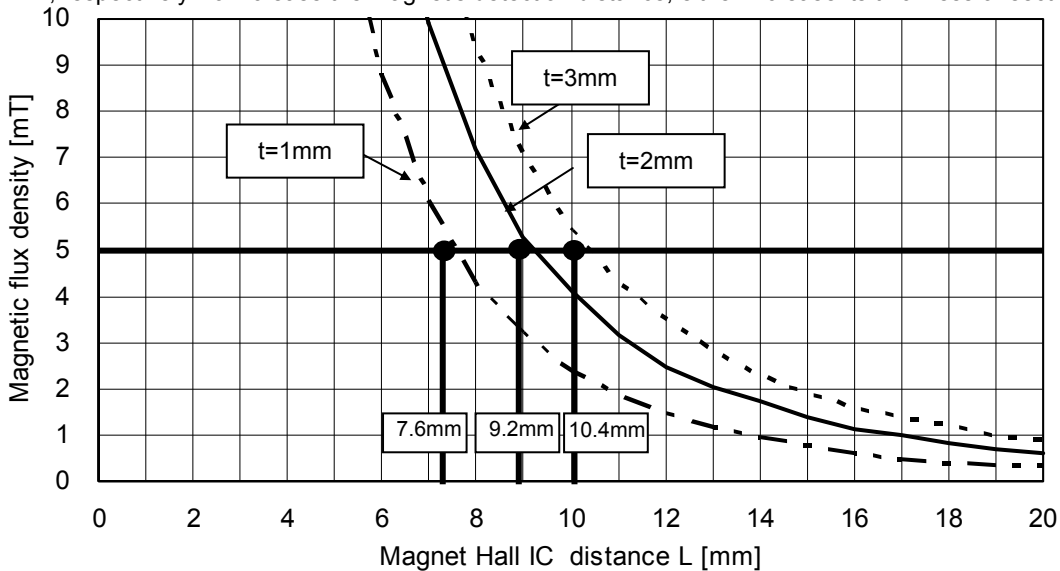

Fig.70
Of the two representative varieties of permanent magnet, neodymium generally offers greater magnetic power per volume than ferrite, thereby enabling the highest degree of miniaturization. Thus, neodymium is best suited for small equipment applications. Fig. 70 shows the relation between the size (volume) of a neodymium magnet and magnetic flux density. The graph plots the correlation between the distance (L) from three versions of a 4mm X 4mm cross-section neodymium magnet (1mm, 2mm, and 3mm thick) and magnetic flux density. Fig. 71 shows Hall IC detection distance – a good guide for determining the proper size and detection distance of the magnet. Based on the BU52011HFV, BU52015GUL operating point max 5.0 mT, the minimum detection distance for the 1mm, 2mm and 3mm magnets would be 7.6mm, 9.22mm, and 10.4mm, respectively. To increase the magnet's detection distance, either increase its thickness or sectional area.